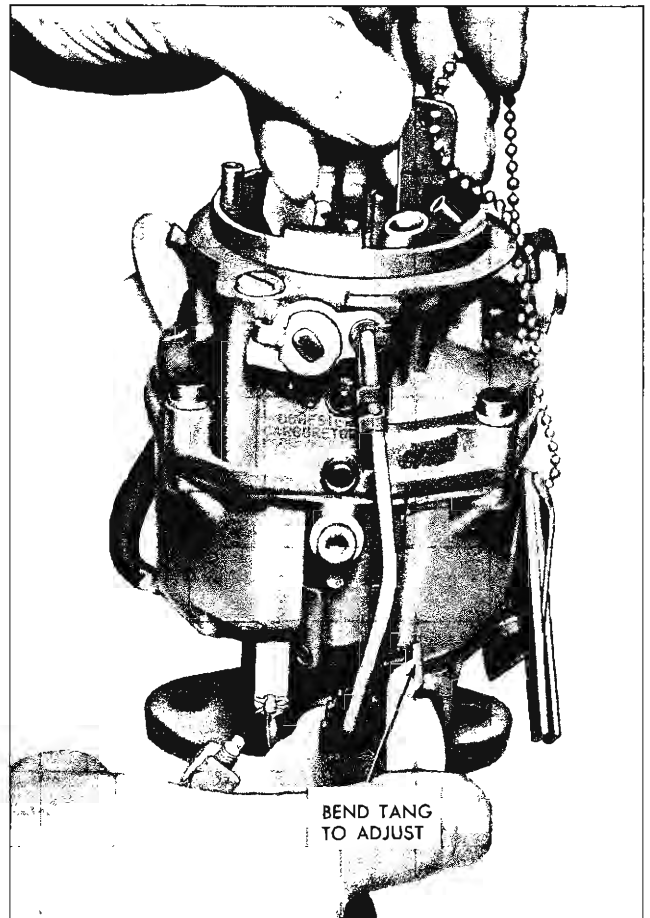

Fig. 6—Unloader Adjustment
2. Using Tool J-9580, see if small step of gauge .230/.270 slides freely between lower edge of choke valve and bore of carburetor (fig. 6).